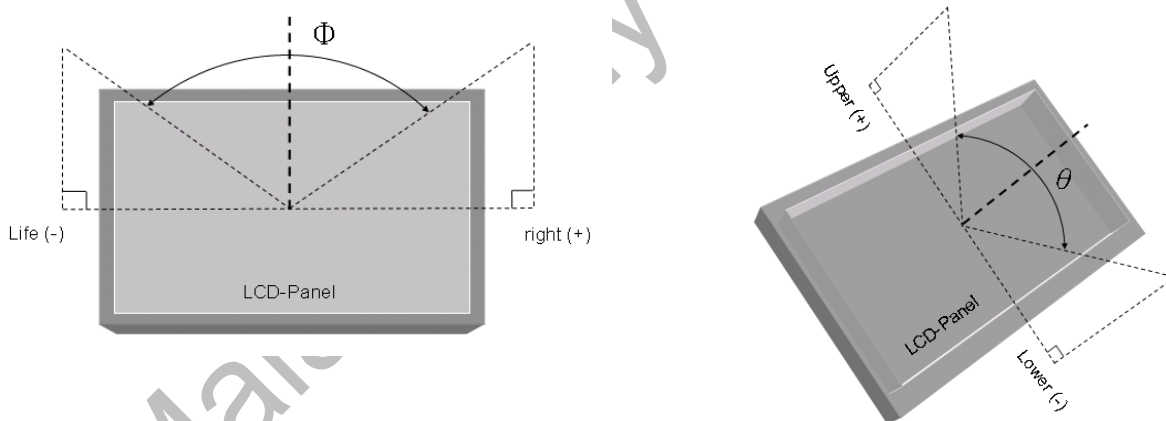

Fig.8-2 Definition of Viewing Angle
*4) Definition of Viewing Angle(θ, ψ), refer to Fig.8-2 as below :